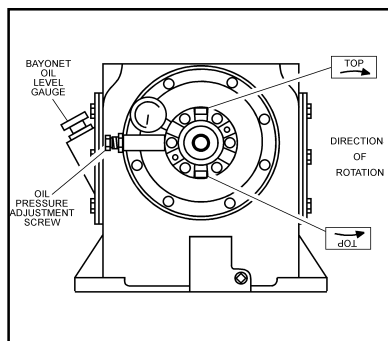
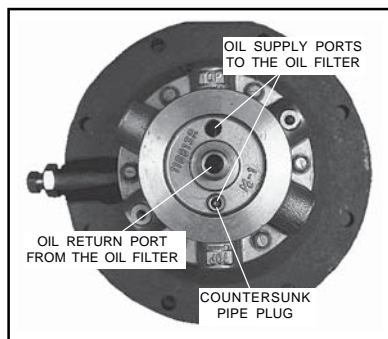

Fig. 5-4
Fig. 5-5 Relocating
Step 2) Rotate the oil pump housing $\frac{1}{2}$ turn (180°). (Note: The rotational arrow at the top of the pump housing should now reference the direction you wish the compressor to rotate. (See **Fig. 5-4, Compressor Directional Arrows**)
Step 3) Re-install the six (6) housing bolts and torque them in a star or cross pattern to six (6) ft.-lbs.
Step 4) Remove the countersunk pipe plug* from the oil pump housing and relocate it in the opposite (bottom) hole. (See **Fig. 5-5, Relocating Countersunk Pipe Plug**)